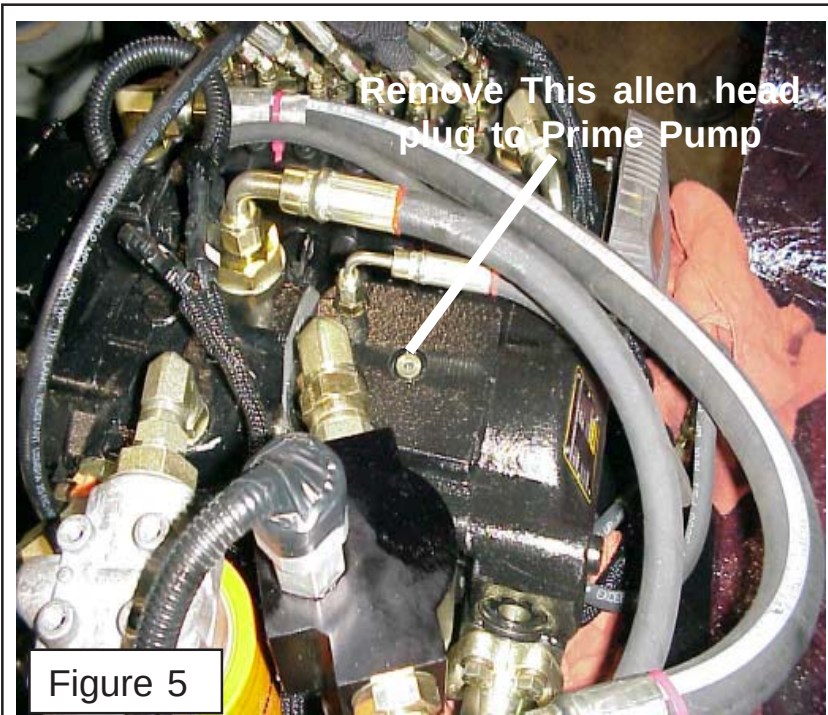

Figure 5
The Diverter Valve bolts onto the front frame mount bracket on the LH side of the tractor, the holes are in the bracket (See Figure 5 & 6). The Diverter valve is a electrical operated valve that allows the hydraulic pressure to be shared to operate two (or more if valves are stacked) functions with a single pressure supply. This valve is strictly a diverter valve and is designed to direct the pressure, not regulate the flow or pressure.
1. The Hydraulic Pump MUST be Primed. The hydraulic pump is primed by putting oil directly in to the pump. Looking at the pump, out near the end of the pump there is a Allen plug (See Figure 5). Remove this plug and install only approved hydraulic oil (See Step 1 through 3 of hydraulic tank filling). Fill the cavity completely full up to plug threads. **IMPORTANT!** This must be done before the unit is ever started. Make certain that the O-Ring Seal is on plug and reinstall it after cavity is full of oil, now the pump is primed. The Unit still will not operate until the next step of setting the electronics to operate the system.
4. How the boom is controlled, The system progression starts with operator input at the joystick (Figure 6- Item A) or other instrumentation. Input is received at the CAN module (Figure 5- Item B) and joins the network. That information is transferred via the network to the valve solenoid (Figure 5- Item C) which activates and moves the spool sending hydraulic fluid pressure to the cylinder (Figure 5-Item D) and moves the load.